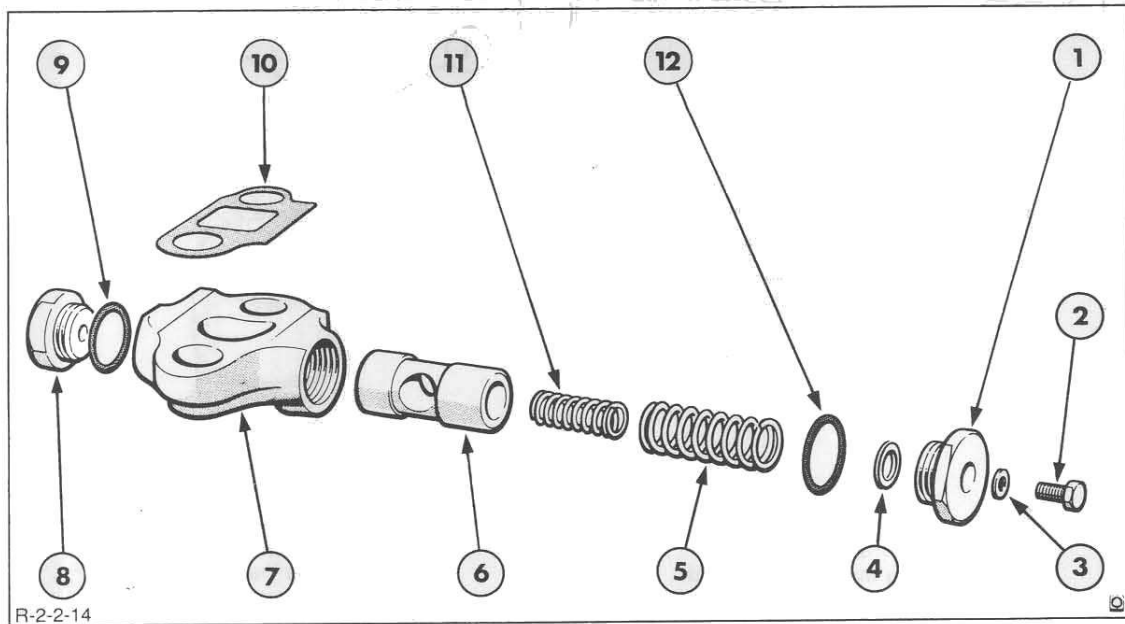

Figure 14
- (iv) Remove the piston end cap and withdraw the piston from the advance device housing. An exploded view of the advance device is shown in Figure 14.